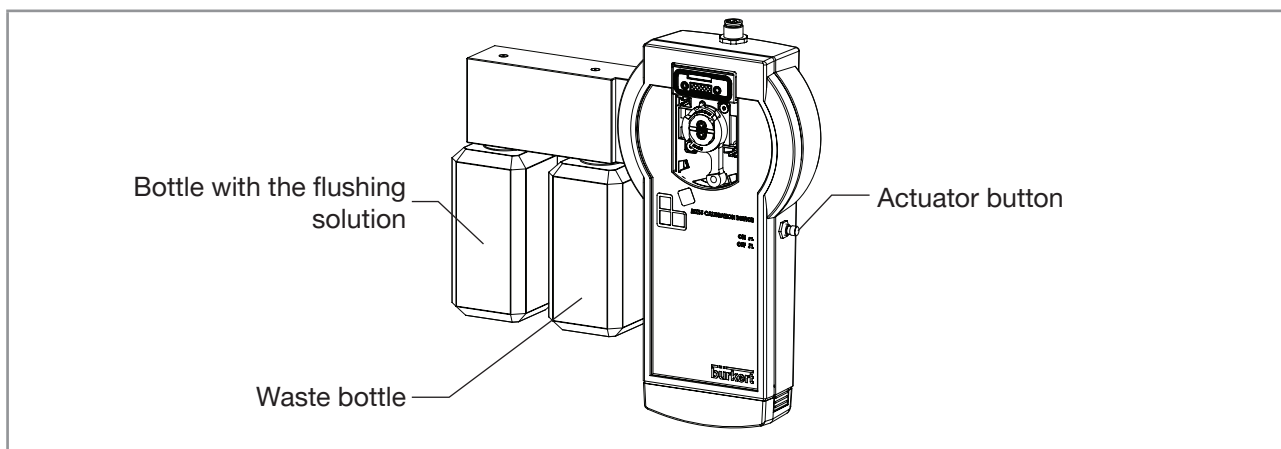

Fig. 23: Handheld calibration-and-cleaning tool: position of the bottle with the flushing solution
- Screw the bottle with the flushing solution as shown in Fig. 23.